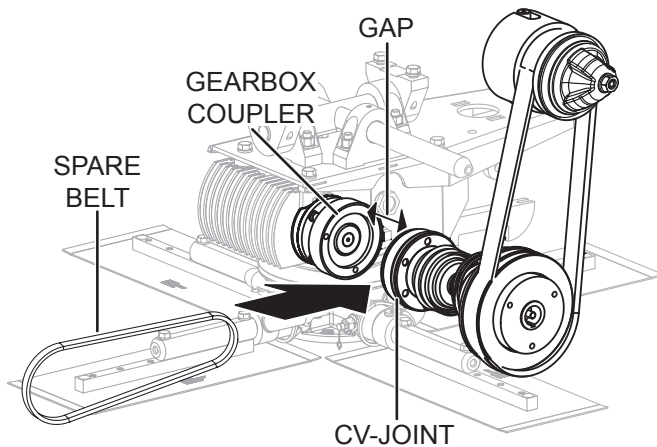

**Figure 24. Disconnecting CV-Joint**
1. Starting at the left-side gearbox, use a 1/4-inch hex wrench to remove the three bolts and washers that secure the CV-joint to the left-side gearbox (Figure 24). Retain mounting hardware for later use.